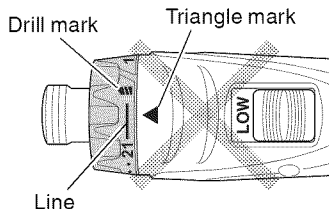

Fig. 9
- Do not use with the clutch dial set at the line between the number “21” and the drill mark “”. Doing so may cause damage (See Fig. 9).